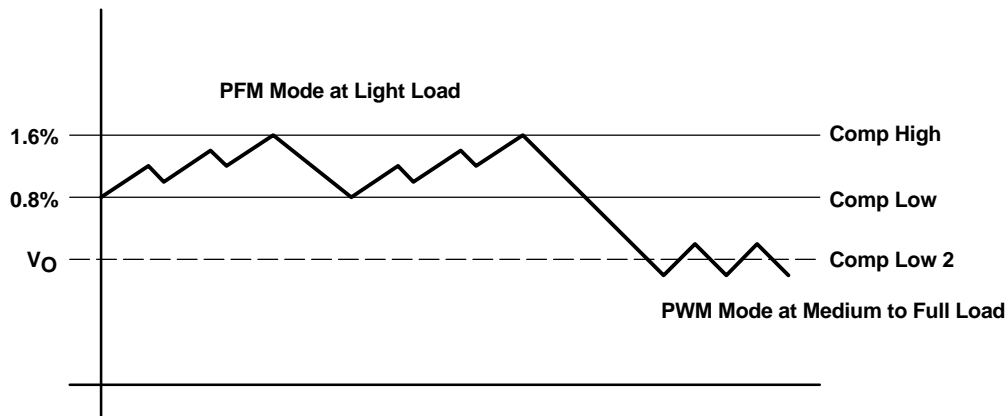

Figure 14. Power Save Mode Thresholds and Dynamic Voltage Positioning
During power save mode the output voltage is monitored with the comparator by the threshold's comp low and comp high. As the output voltage falls below the comp low threshold set to typically 0.8% above the nominal output voltage, the P-channel switch turns on. The P-channel switch remains on until the transition current (1) is reached. Then the N-channel switch turns on completing the first cycle. The converter continues to switch with its normal duty cycle determined by the input and output voltage but with half the nominal switching frequency of 625-kHz typ. Thus the output voltage rises and as soon as the output voltage reaches the comp high threshold of 1.6%, the converter stops switching. Depending on the load current, the converter switches for a longer or shorter period of time in order to deliver the energy to the output. If the load current increases and the output voltage can not be maintained with the transition current, equation (1), the converter enters PWM again. See Figure 11 and Figure 12 under the typical graphs section and Figure 14 for power save mode operation. Among other techniques this advanced power save mode method allows high efficiency over the entire load current range and a small output ripple of typically 1% of the nominal output voltage.
Setting the power save mode thresholds to typically 0.8% and 1.6% above the nominal output voltage at light load current results in a dynamic voltage positioning achieving lower absolute voltage drops during heavy load transient changes. This allows the converter to operate with small output capacitors like 22 μF and still having a low absolute voltage drop during heavy load transient. Refer to Figure 14 as well for detailed operation of the power save mode.
As described in the power save mode operation sections before and as detailed in Figure 14 the output voltage is typically 0.8% (i.e., 1% on average) above the nominal output voltage at light load currents, as the device is in power save mode. This gives additional headroom for the voltage drop during a load transient from light load to full load. In the other direction during a load transient from full load to light load the voltage overshoot is also minimized by turning on the N-Channel rectifier switch to pull the output voltage actively down.